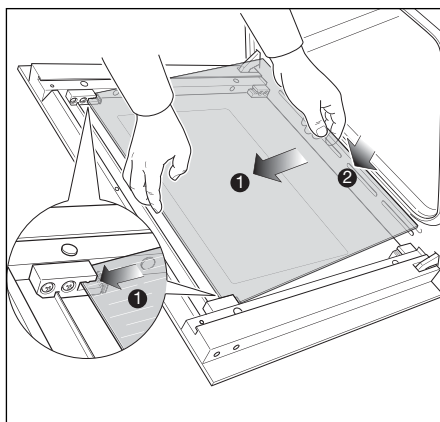
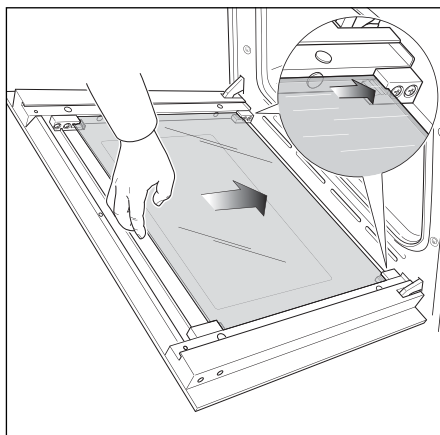

Fig. 42b
Fig. 42c
- Gently insert the top edge of the pane into the top clamps (arrow 1 in Fig. 42b), then lower the pane and insert the bottom edge into the bottom clamps (arrow 2 in Fig. 42b); and then slide the pane into position (Fig. 42c).